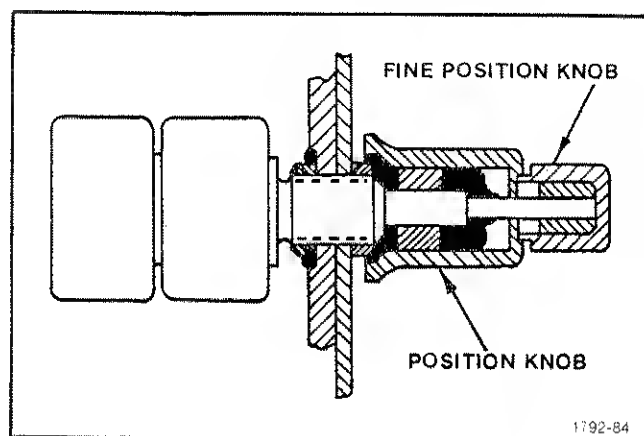

Fig. 5-31. Installation of knob on shaft.
2. Assemble the POSITION knob and the FINE POSITION knob on the control shafts as shown in Fig. 5-31.